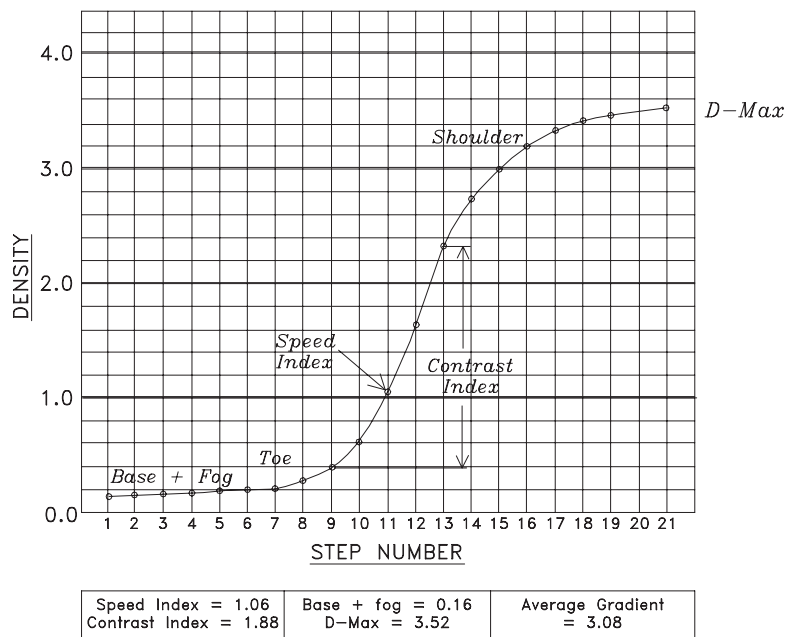
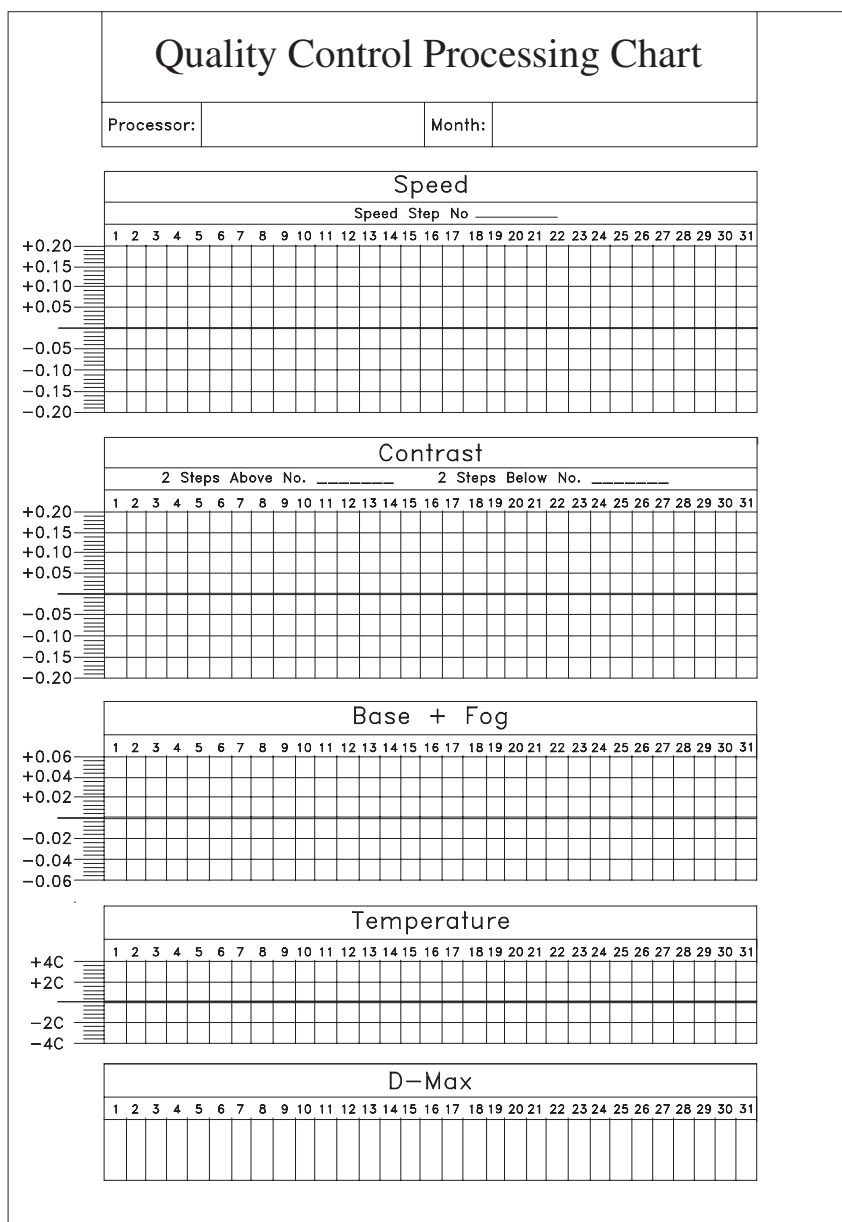

Fig A-2. Example of a characteristic curve
Fig A-3. Sensitometry charts for recording speed, contrast, base + fog, temperature and D-Max data
- Join up all the plots to form a free flowing curve. (See fig A-2).
- Calculate the ‘Speed’, ‘Contrast’, ‘Base plus Fog (D-Min)’, ‘Temperature’ and ‘D-Max’ and enter on the appropriate graphs. (See Fig A-2 and Fig A-3)
- Measure and plot the density of the speed steps daily. (See Fig A-2, Fig A-3, and Appendix C page 177.)
- Repeat this process daily, plotting the contrast indicator under appropriate dates. (See Fig A-2, Fig A-3, and Appendix C page 177.)
- Repeat this procedure daily, plotting the base plus fog density under appropriate dates. (See Fig A-2, Fig A-3, and Appendix C page 177.)
- Repeat this procedure daily, plotting Temperature under appropriate dates, (See Fig A-2, Fig A-3, and Appendix C page 177.)
- Record against the zero line of the **D-Max Chart**. Do this only on day one, after the chemistry has been freshly mixed. (See Fig A-2, Fig A-3, and Appendix C page 177.)